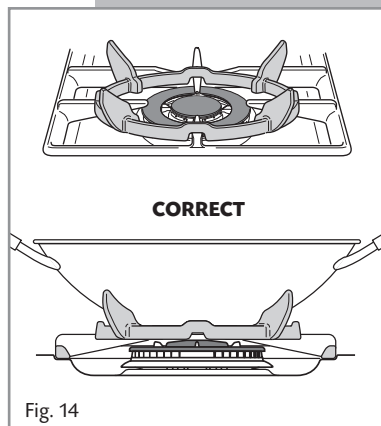

Fig. 14
**Important:** The wok pan stand (fig. 14) **MUST BE PLACED ONLY** over the pan-rest for the triple-ring burner.